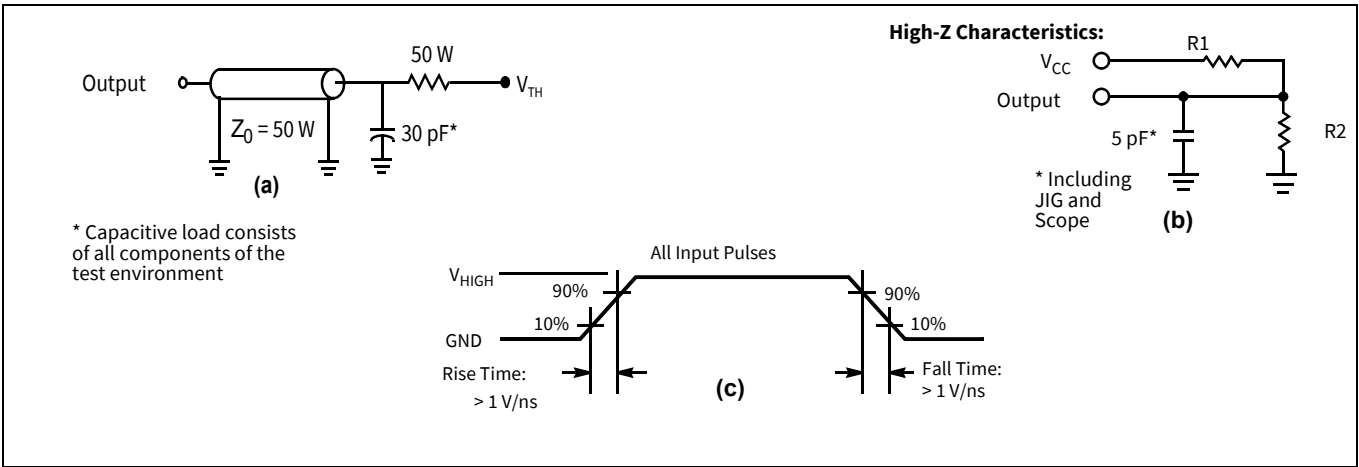

Figure 2 AC test loads and waveforms^[7]
- Test conditions assume signal transition time (rise/fall) of 3 ns or less, timing reference levels of 1.5 V (for V_{CC} ≥ 3 V) and V_{CC}/2 (for V_{CC} < 3 V), and input pulse levels of 0 to 3 V (for V_{CC} ≥ 3 V) and 0 to V_{CC} (for V_{CC} < 3 V). Test conditions for the read cycle use output loading shown in part (a) of Figure 2, unless specified otherwise.
- t_{HZOE}, t_{HZCE}, t_{HZWE}, t_{LZOE}, t_{LZCE}, and t_{LZWE} are specified with a load capacitance of 5 pF as in (b) of Figure 2. Transition is measured ±200 mV from steady state voltage.